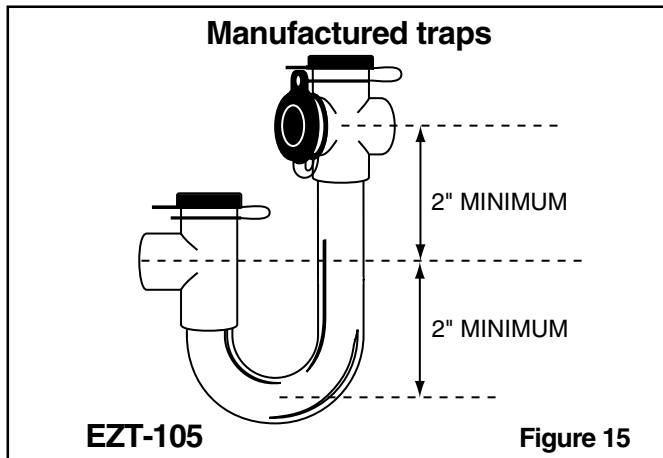

Figure 15
1. The primary drain line must be trapped with a minimum of 2" water seal as shown in Figures 15 & 16. **Do not use preformed 3/4" PVC running traps.** The use of field fabricated or manufactured traps as shown in Figures 15 & 16 is acceptable. The manufactured trap shown in Figure 15 allows for a float switch option to be added. Refer to the manufacturers data and instructions for details.
3. It is recommended that a clean-out tee or cross be installed in the primary drain line for future maintenance (See Figure 15 & 16).